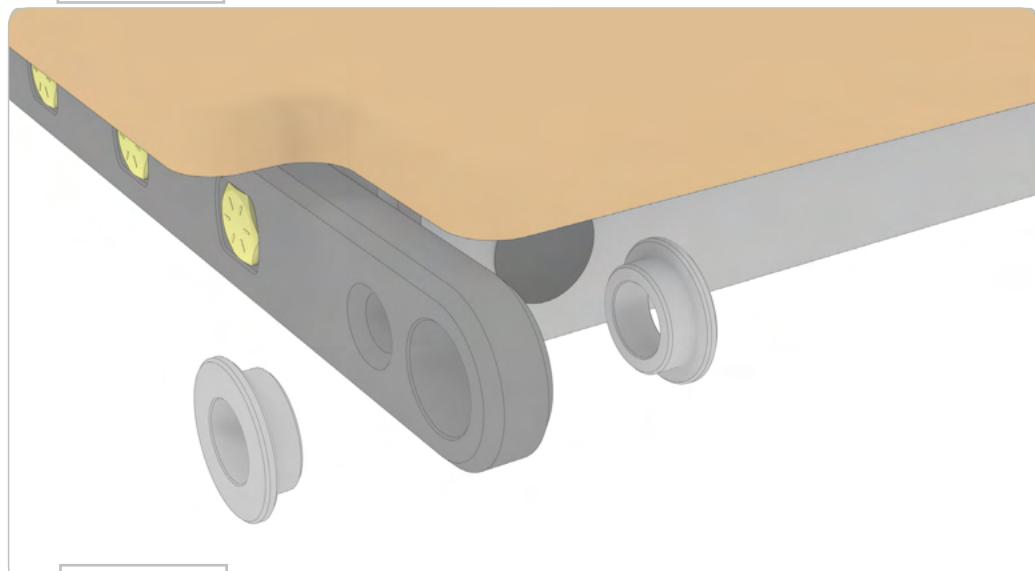

FIG 79
6.1 Attach Pivot Bushings to Bed Frame: Insert Pivot Bushings into each of the arms of the **Bed Frame** in the orientation shown in FIG 79.